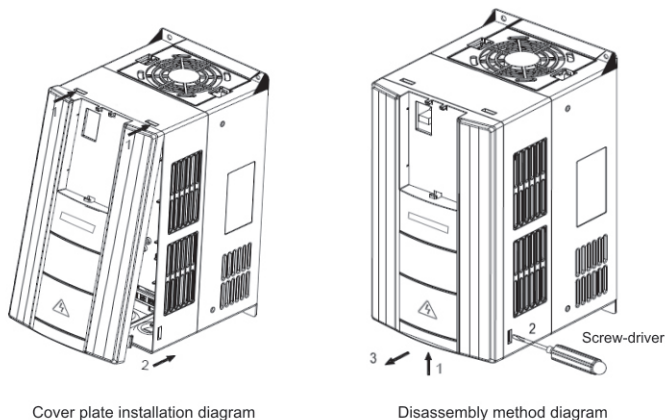

Figure 3-1 Installation Diagram
- 1) Install the inverter vertically so that the heat may be expelled from the top. However, the equipment cannot be installed upside down. If there are multiple inverters, parallel installation is a better choice. In applications where the upper and lower inverters need to be installed, please refer to Figure 3-1 "Inverter Installation Diagram" and install an insulating splitter.
- 2) The mounting space should be as indicated as Figure 3-1, so as to ensure the heat dissipation space of the inverter. However, the heat dissipation of other devices in the cabinet should also be taken into account.